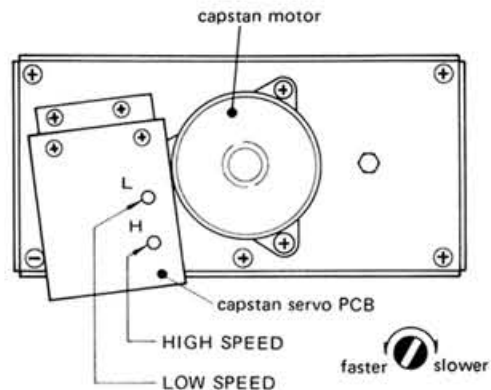

Fig. 2-25
3. Play the tape. Adjust HIGH SPEED control (see Fig. 2-25) for a reading of 3,000Hz  $\pm$ 5Hz.